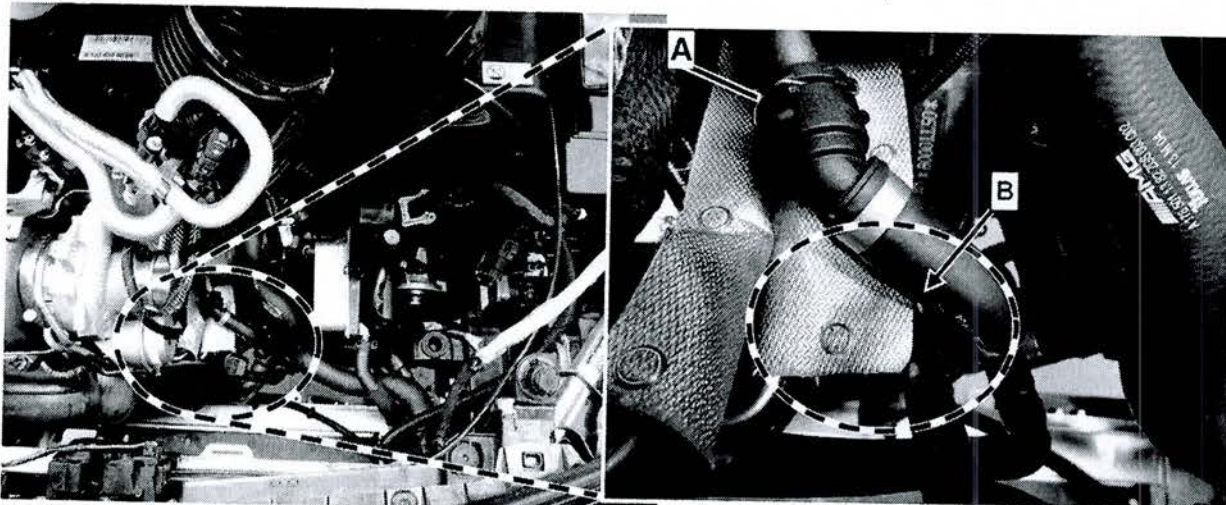

Figure 2
4.  Check coolant line (B, Figure 2) for damage with mirror.
- If damage to coolant line (B) and fabric visible (NOT OK): Proceed to steps 5 - 7.
- If no damage to coolant line (B) and no fabric visible (OK): Proceed to step 6.
-  Release locking clips (A, Figure 2) from old coolant line (B) and remove old coolant line.